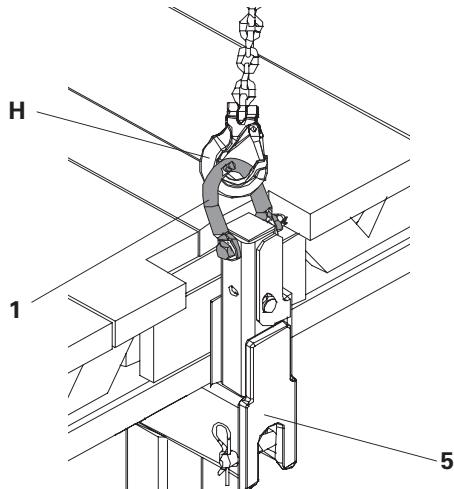

Fig. 6a
(Fig. 6a)
1. Attach Hook (H) of the lifting gear to the Crane D-Ring (1) of the Crane Eye CB 240-2 0.7 t and secure. (Fig. 6a)